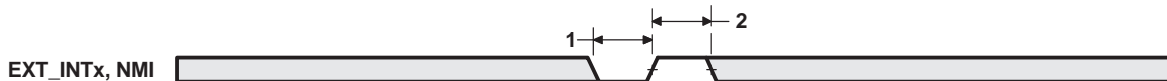

Figure 5-27. External/NMI Interrupt Timing
5.9.1 Timing Requirements for External Interrupts⁽¹⁾ (see Figure 5-27)